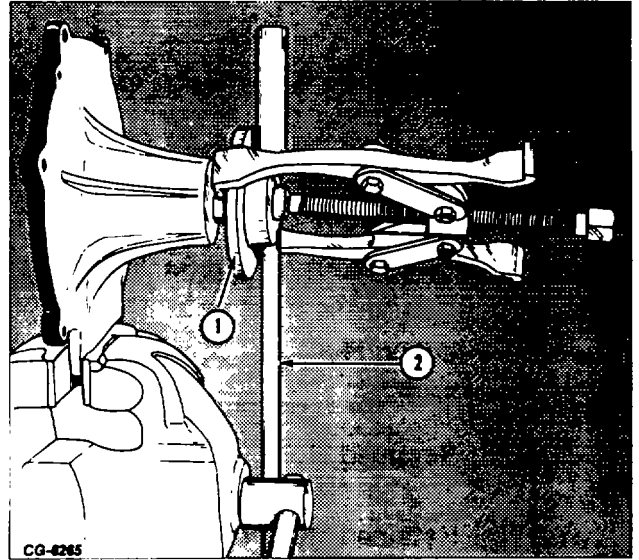

Figure 3. - Removing the Fan Hub
1. Using a puller, remove the fan hub (1, Fig. 3) from the water pump shaft. Use a bar (2) to prevent the hub from turning.